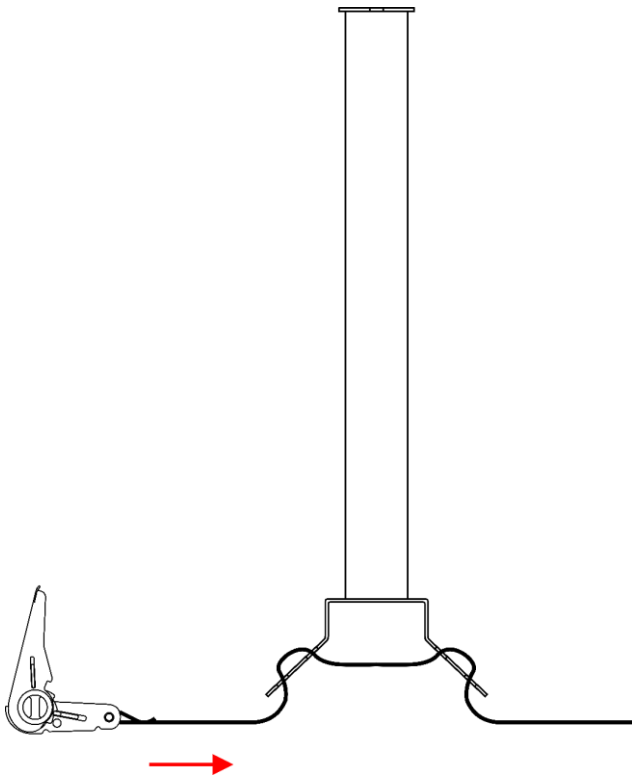

Fig. 05
- 01) Thread both **endless ratchet straps (04)** on the Tree & Pole Bracket (Fig. 05). Make sure that the **endless ratchet straps (04)** are not twisted.